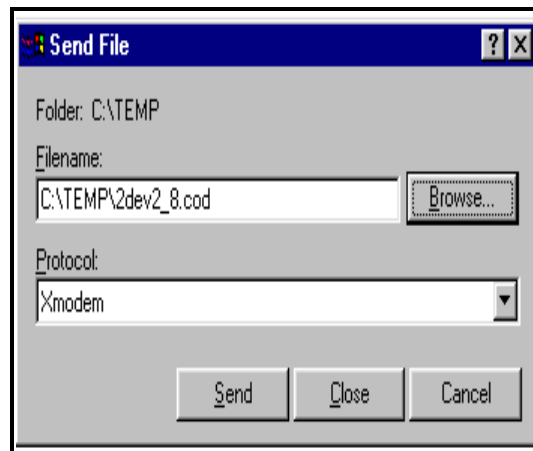

Figure 69: Flash Update Window
3. Use the arrow keys to scroll to Flash Update and press **[ENTER]**. Screen appears similar to Figure 69 on page 79.
4. Press **[F3]** (OK) to confirm that you wish to erase the program.
5. The meter asks for confirmation. Press **[F3]** (OK) to continue with the update.